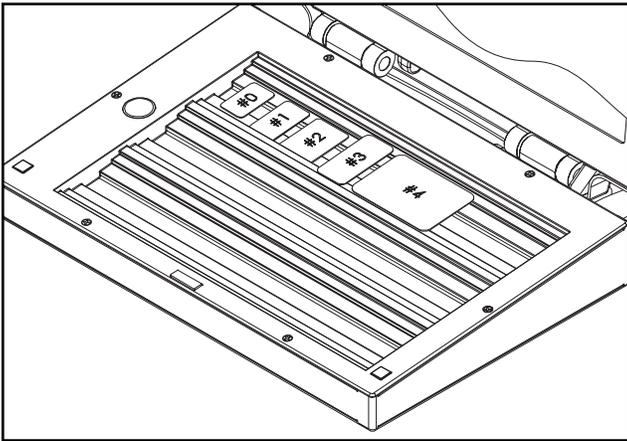

FIG. 3: SUGGESTED PSP ORIENTATION
2. Place Phosphor Storage Plates (PSP's) on **A/T SCANX ERASER** tray with blue or white side of PSP's facing up as suggested in FIG. 3 - 8.